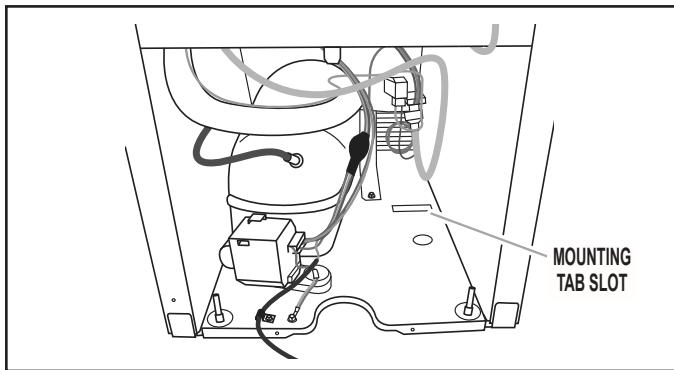

FIGURE 6
- Slide drain pump into the ice maker base on the right side. The pump mounting tab should slip into the rectangular slot in the ice maker base. It will be necessary to tip the pump slightly to slip into the slot. *Figure 6* shows the mounting tab that must slip into the slot.